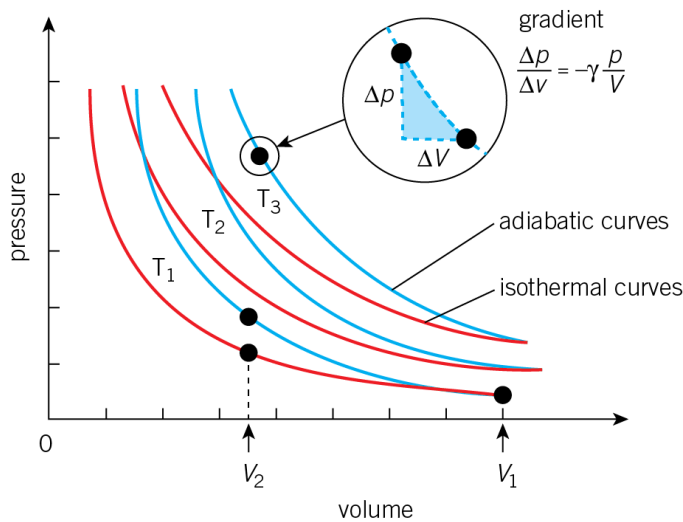

Figure 2 Adiabatic curves
- 3 Adiabatic changes of an ideal gas can be plotted on a graph of pressure against volume. The curves are steeper than isotherms (which are constant temperature curves in accordance with  $pV = \text{constant}$ ), as Figure 2 shows. For example, if a gas is compressed from volume  $V_1$  at temperature  $T_1$  to volume  $V_2$ , the final temperature is higher than  $T_1$  (which is the temperature it would have stayed at if it had been compressed isothermally). This is because heat transfer from the gas cannot occur in an adiabatic change. So the internal energy of the gas and hence the final temperature and pressure are higher than they would have been if the compression had been isothermal.
Figure 2 can be used to show particular changes in which a fixed mass of gas is compressed from volume  $V_1$  to a smaller volume  $V_2$ :